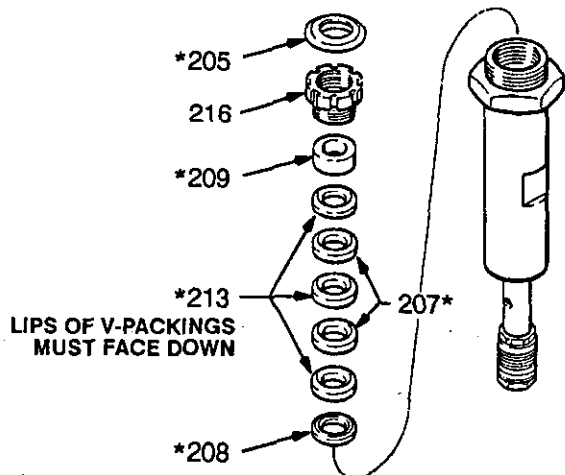

Fig 16-2
3. Remove the packing nut (216) and plug (205). See Fig 16-2.
4. Tap the piston rod (224) down with a plastic mallet, and then pull the rod out the bottom of the cylinder.
5. Remove the throat packings (207, 213) and glands (208, 209). See Fig 16-2.